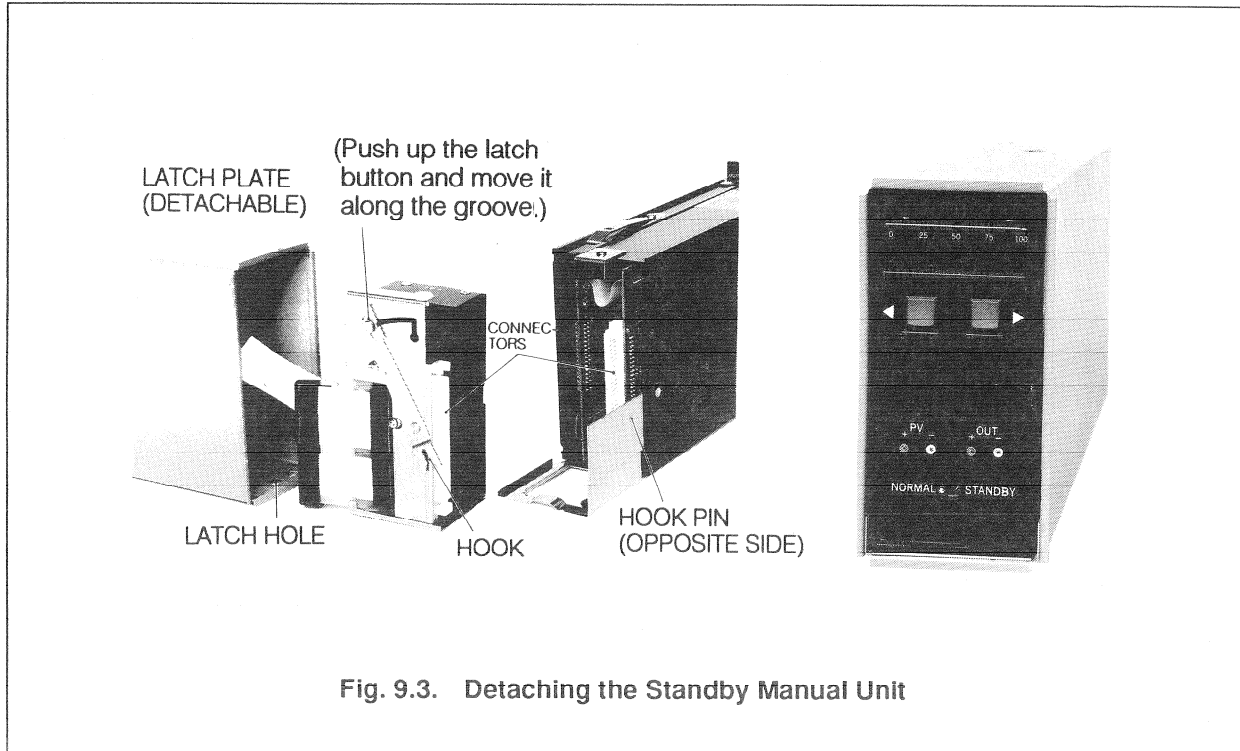

Fig. 9.3. Detaching the Standby Manual Unit
- (b) Direct the standby manual unit to its front. Hang the bottom latch of the standby manual unit onto the latch hole at the bottom end of the casing. The instrument can be operated in the manual mode in a setup as shown in Fig. 9.3.
- ④ For operation with the standby manual unit, throw the PV/OUT indication selector switch to the PV side (the raw analog input is displayed) and control the output with the output control knob. (The Preset A Type Standby Manual Unit has a PV/OUT indicator selector switch.)
(3) Restoring the Instrument to the Original State
- ① After repairing the controller (main unit) with respect to the error message displayed on the data setting unit, restore the instrument to the original state by installing the standby manual unit onto the controller (main unit) as explained below.
- (a) To install the standby manual unit onto the controller (main unit), follow the detaching procedure in the reverse order. When doing this, apply the indent at the bottom of the hook of the standby manual unit to the pin for the hook (see Fig. 9.3) and, checking that the connectors are accurately aligned, erect the hook vertically.
- ② Return the STANDBY/NORMAL switch to the NORMAL position.
- ③ The controller (main unit) in this case will be in the interlock manual mode. Reset it to the normal operation mode by pressing the **R** (RESET) key on the front panel of the controller.
- ⑤ For operation with the standby manual unit, throw the PV/OUT indication selector switch to the PV side (the raw analog input is displayed) and control the output with the output control knob. (The Preset A Type Standby Manual Unit has a PV/OUT indicator selector switch.)
- (3) Restoring the Instrument to the Original State
- ③ The controller (main unit) in this case will be in the interlock manual mode. Reset it to the normal operation mode by pressing the R (RESET) key on the front panel of the controller.